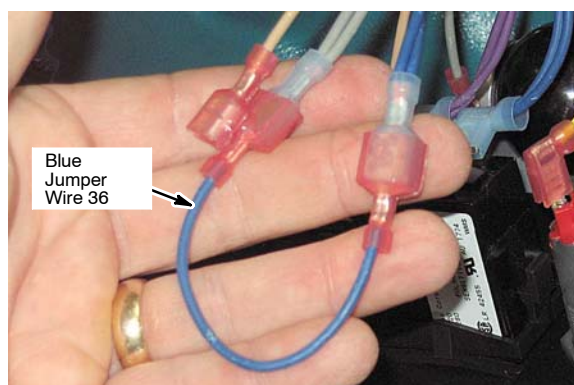

Fig. 26
10. Within the lower control console wiring, locate and remove Blue Jumper Wire 36 from wires 8/8A Gray and 6/16 Blue and discard (Figure 26).